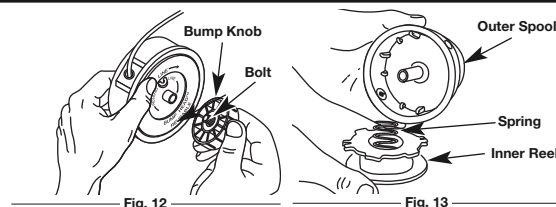

Fig. 12
- Hold the outer spool with one hand and unscrew the bump knob counterclockwise (Fig. 12). Inspect the bolt inside the bump knob to make sure it moves freely. Replace the bump knob if damaged.